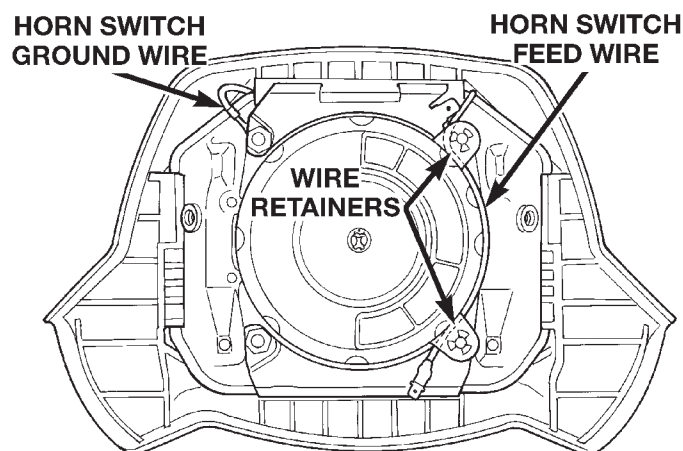

Fig. 6 Horn Switch Feed Wire Remove/Install - w/o Speed Control
(1) Disconnect and isolate the battery negative cable. If the airbag module has not been deployed, wait two minutes for the system capacitor to discharge before further service.
(2) Remove the driver side airbag module from the steering wheel. See Airbag Module in this group for the procedures.
(3) Remove the plastic horn switch feed wire retainer(s) from the stud(s) on the airbag housing (Fig. 6) or (Fig. 7).